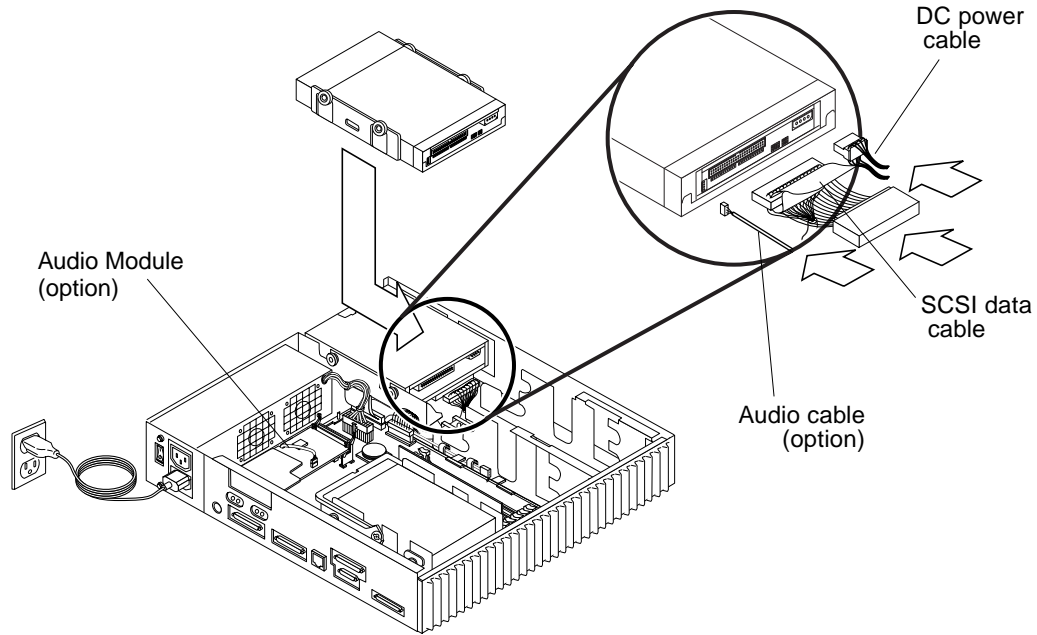

FIGURE 9-6 Replacing the CD-ROM Drive
3. **Install the drive as shown in FIGURE 9-6.**
See FIGURE 9-6.